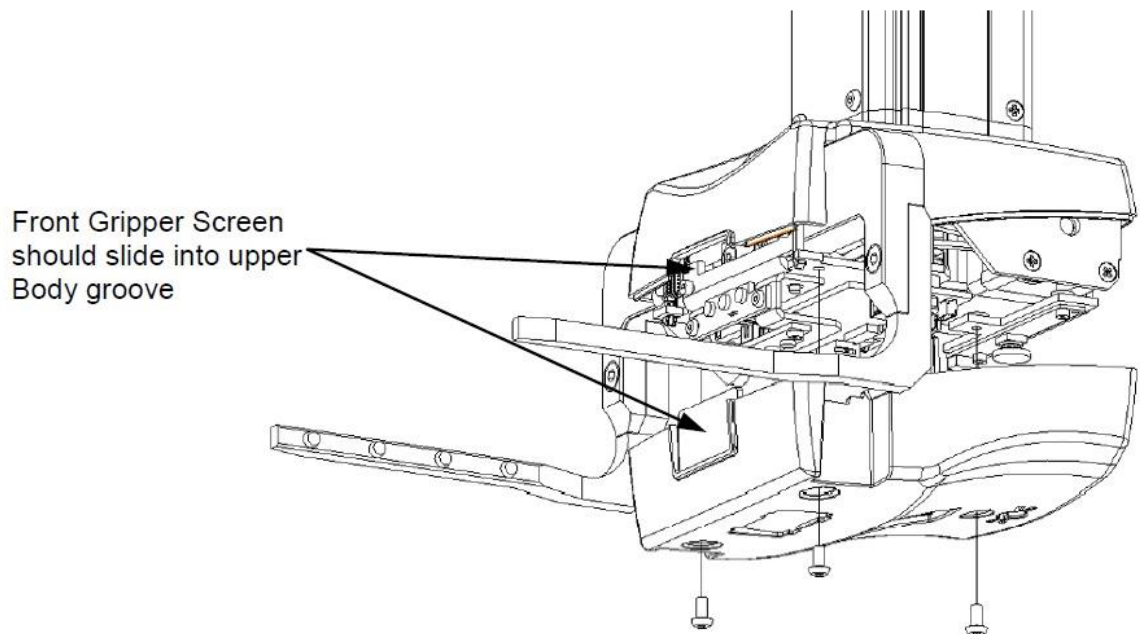

Figure H-8: Securing the Gripper Bottom Assembly
5. Secure the Gripper Body Bottom assembly to the bottom of the Gripper using three M3x6 BHCS and Loctite 425. Locate the Bottom Body so the Screen slides into the groove of the Upper Body (Figure H-8).